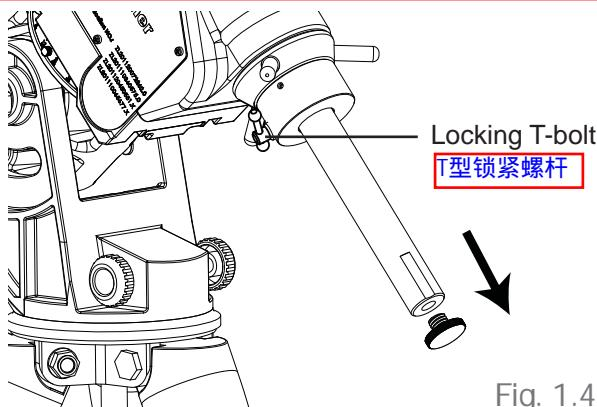

Fig. 1.4a
1. 拧松用来锁紧配重杆的T型螺杆后轻轻拉出配重杆。再次拧紧T型螺杆确保配重杆固定到位。1. Loosen the T-bolt for locking the counterweight rod and gently pull out the counterweight rod. Re-tighten the T-bolt to secure the counterweight rod in place. (Fig. 1.4a)